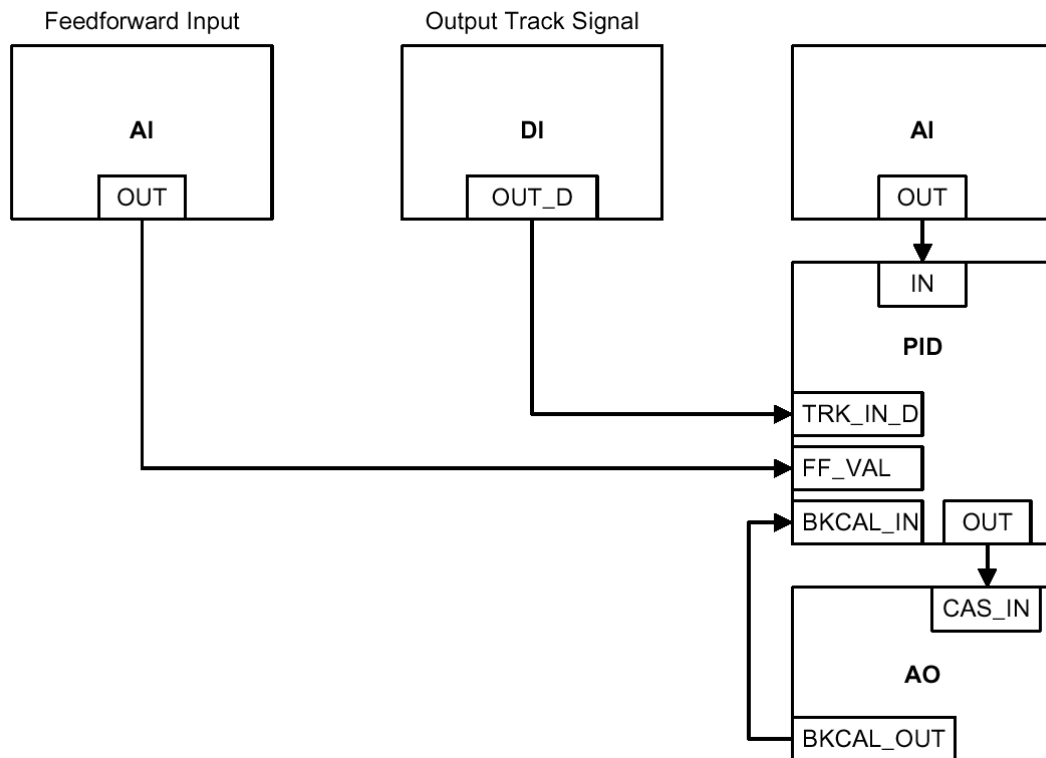

Figure 2. Feedback control loop with feedforward and track capability.
5. Build the control application. Link the block inputs and outputs, alarms and trends. See the fieldbus configurator sw documentation. Two basic control loops are presented in figures 2 and 3.